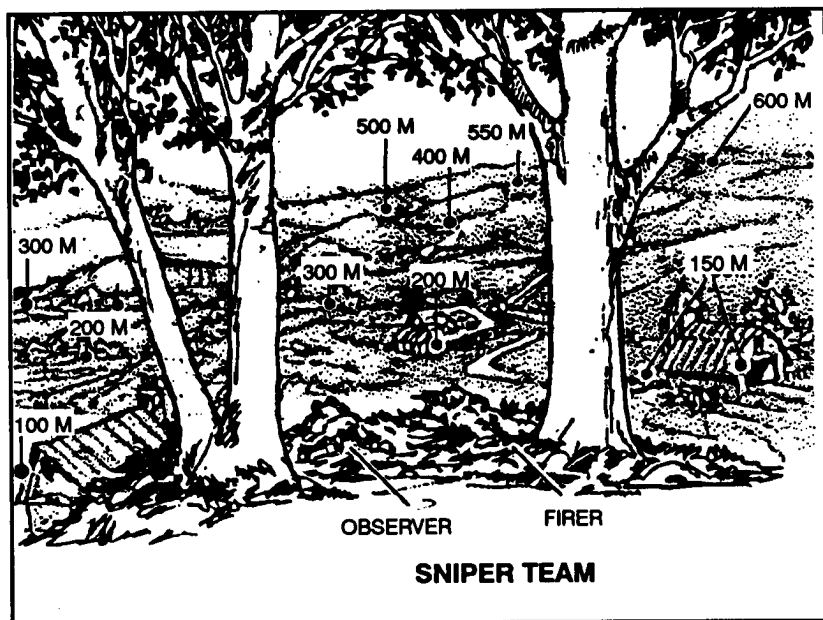

Figure 4-16. Detailed search.
b. After a hasty search has been completed, the observer then conducts a detailed search of the area. A detailed search is a closer, more thorough search of the target area, using 180-degree area or sweeps, 50 meters in depth, and overlapping each previous sweep at least 10 meters to ensure the entire area has been observed (Figure 4-16, page 4-30). Like the hasty search, the observer begins by searching the area closest to the sniper team position.